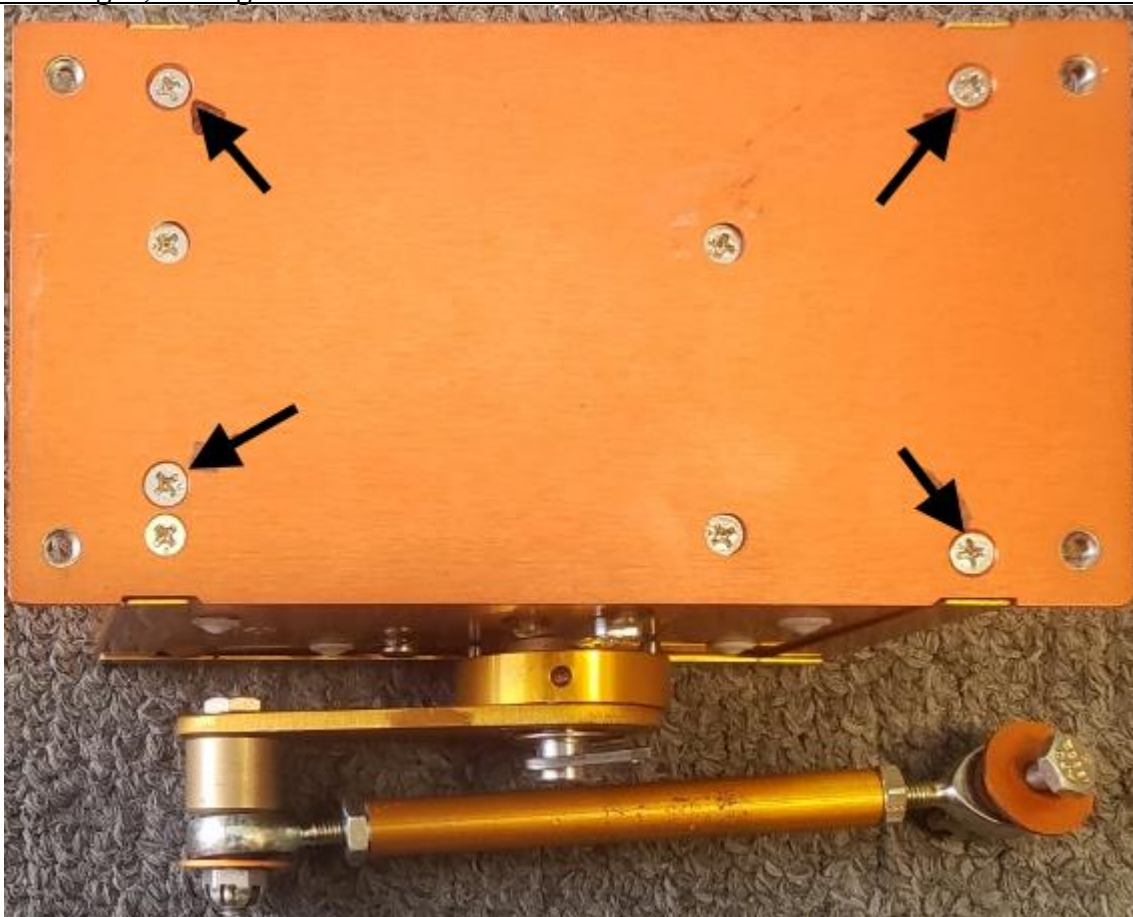

FIGURE 2-1 PITCH SERVO BASEPLATE
- 2.3 Remove the pitch servo baseplate screws from the pitch servo and install the new pitch servo baseplate which has PEM nuts installed on it. Refer to Figure 2-1. The pitch servo may come from the factory with the 901-115 baseplate already installed.